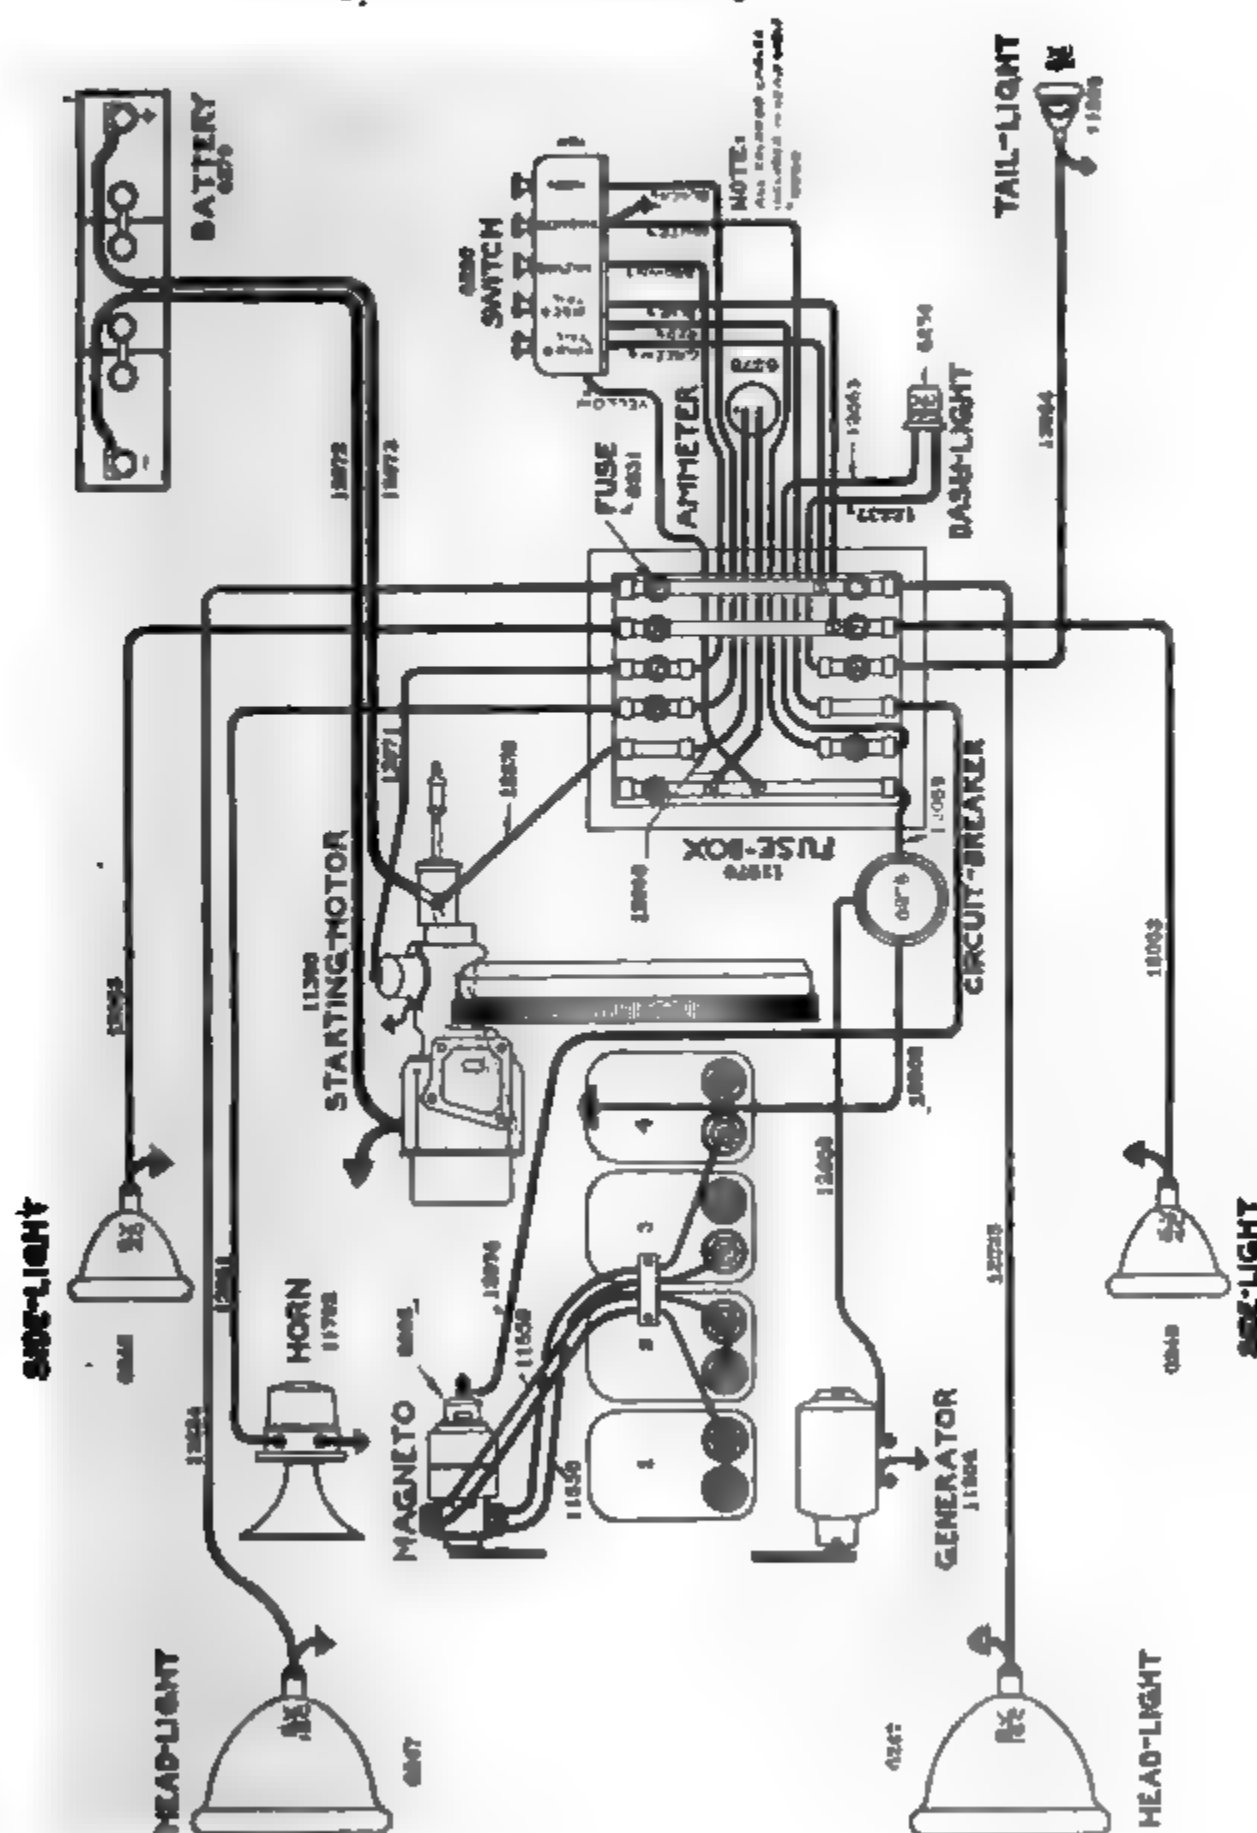

Fig. 225. Auto-Lite Wiring Diagram for Overland Cars
**Wiring Diagram.** The connections are practically the same, regardless of the type of starting motor installed, so that the following description will cover all three of the Overland models mentioned, Fig. 225. The ignition system is entirely independent of the starting and lighting system, although it appears on the diagram. The connections are as follows: Cable 12072, battery negative to motor terminal; cable 12073, battery positive to starting switch; wire 12236, starting switch to fuse block; wire 12066, fuse to positive ammeter terminal; wire 12066, negative ammeter terminal through fuse; wire 12069, to battery cut-out; wire 12068, generator positive terminal to cut-out. The battery negative is grounded at the end of cable 12072, while the cut-out is grounded to the frame through the wire 12906 and the generator is grounded at its negative terminal. This is an example of the frame of the car being employed for the negative side of the circuit, as compared with the Gray & Davis in which it is utilized for the positive side. While the ground connections of the lamps and horn are indicated as separate wires, in the case of the lamps the socket itself forms the ground connection. The location of the various fuses and the relation of the various essentials of the system will be clear upon tracing the diagram.